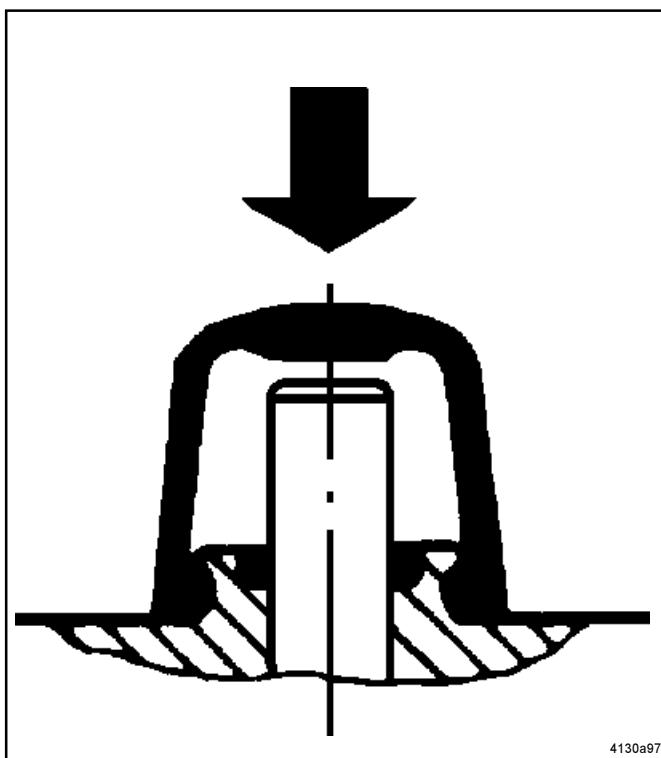

Fig. 5 - Manual Emergency button: Press on the Magnetic pin
- \* Manual emergency button: For checking the valve, press on the magnetic pin (standing out under the rubber cap, see fig. 5). This will release a manual impulsion.